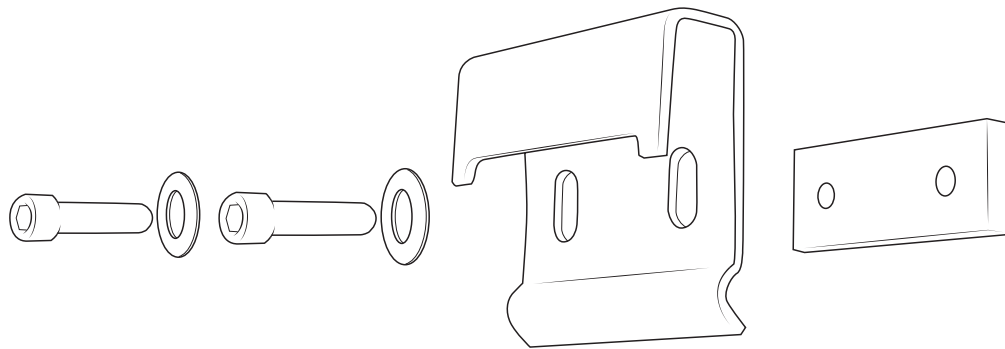

Figure 5
1. Work through the tail light openings to attach rear brackets with provided hardware (fig. 5).